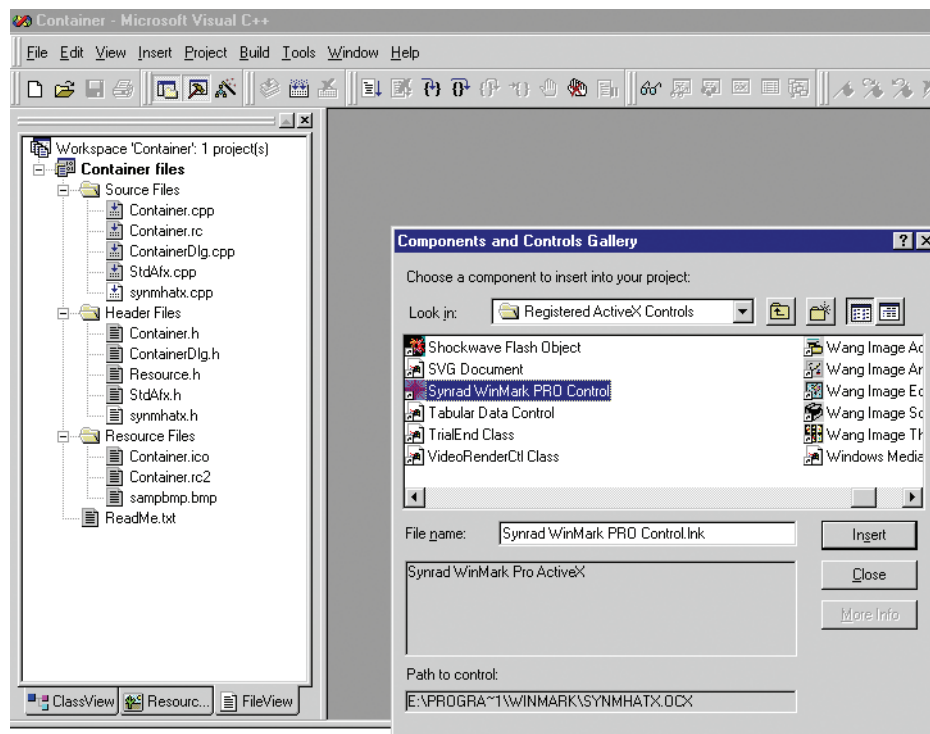

Figure 12-2 Inserting WinMark Pro's ActiveX control
- 5 Select the *Synrad WinMark PRO Control* and then click *Insert* (see Figure 12-2).